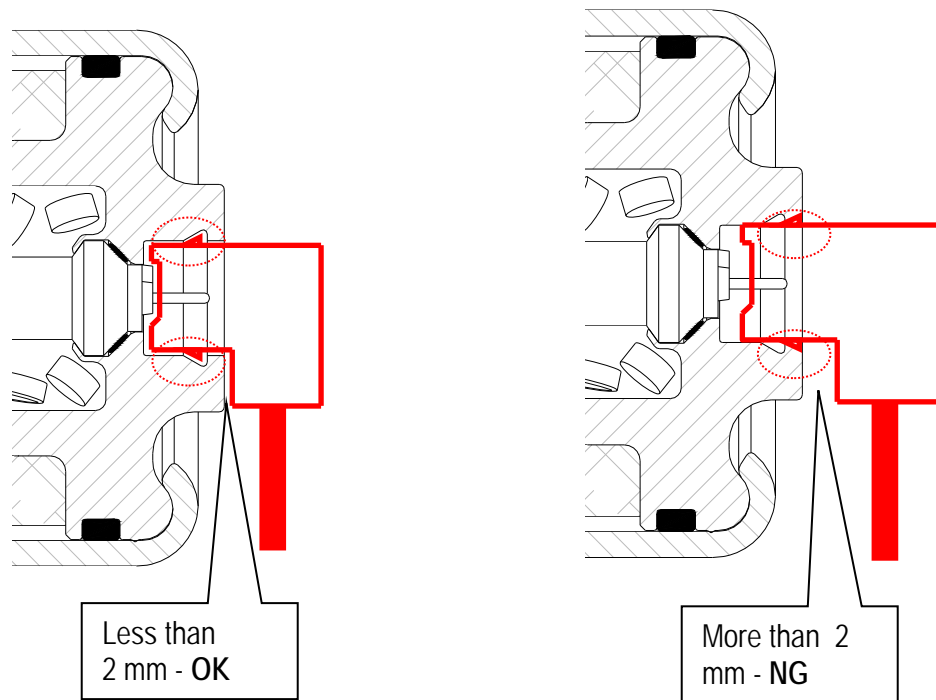

Figure 28
- Make sure harness connector is fully engaged / seated (Figure 28).